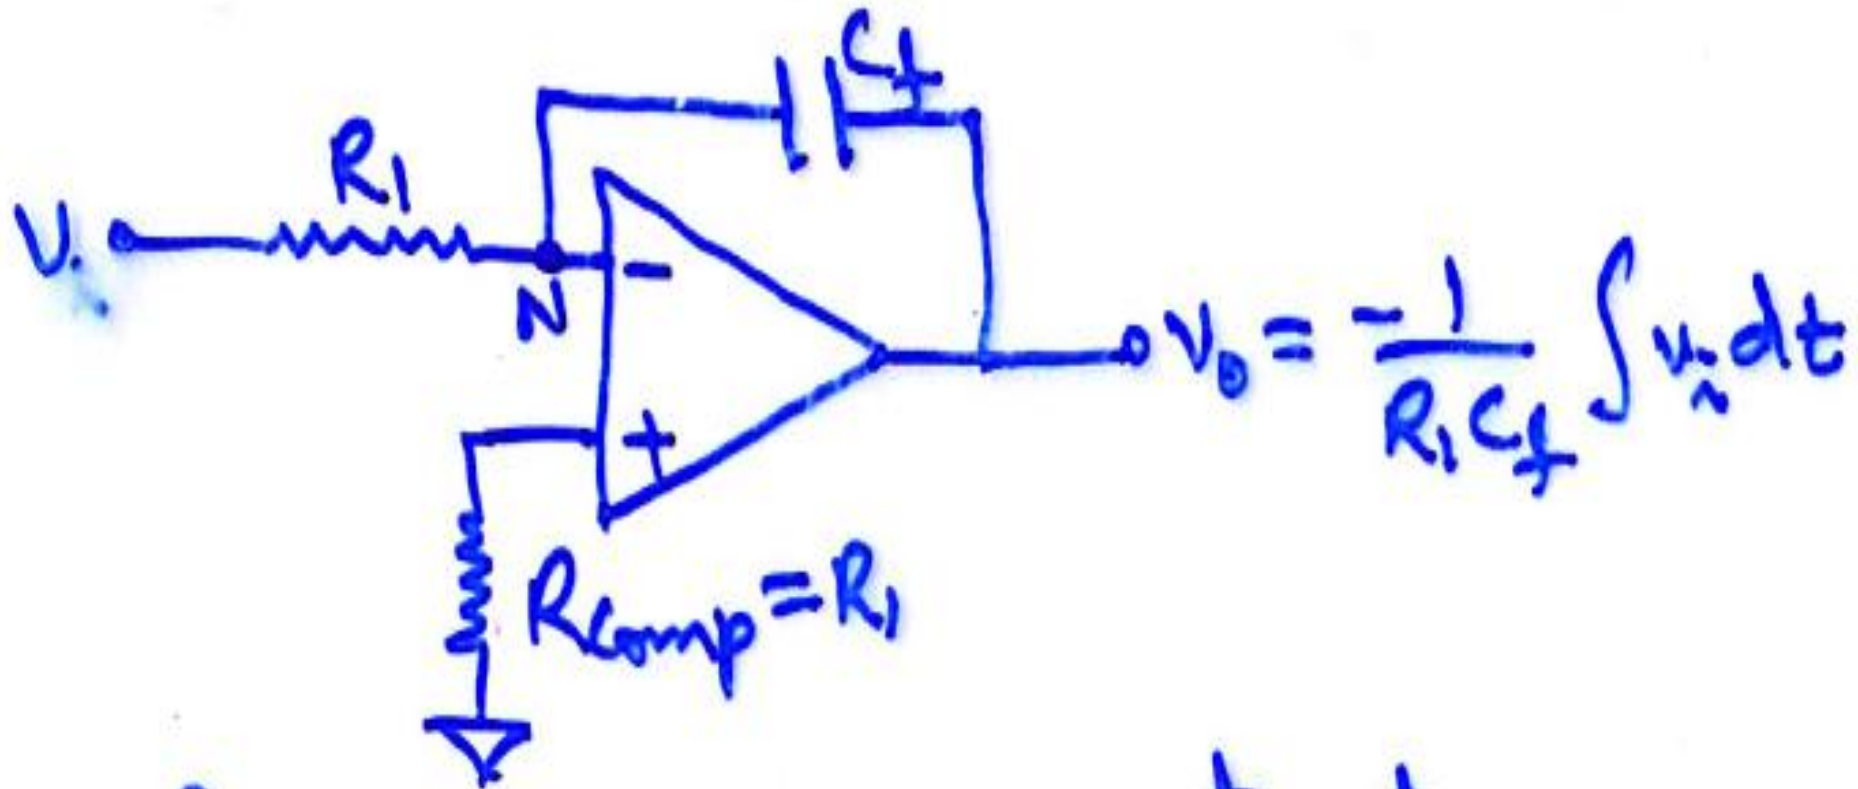

Fig 4.23(a) op-amp integrator
- By interchanging the resistor and capacitor of the Differentiator, we get the circuit of an integrator which is shown in the figure 4.23(a).